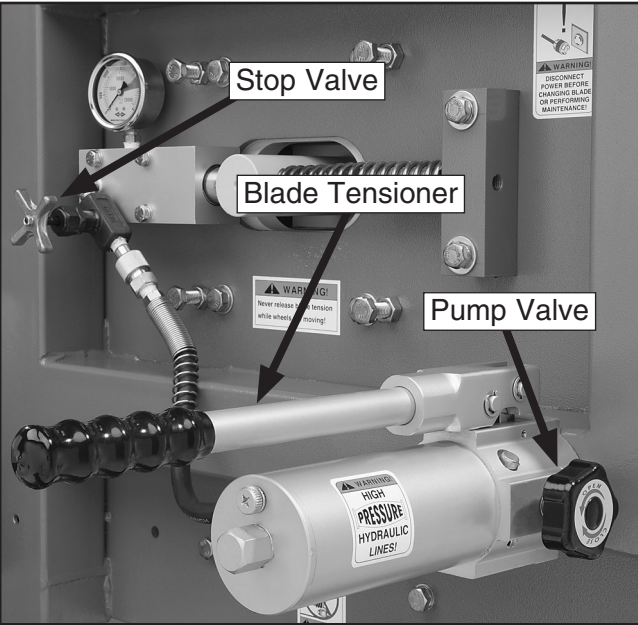

Figure 16. Blade tensioner controls.
- 6. Loosen the stop valve (**Figure 16**) and tighten the pump valve.
- 7. Tighten the blade with the blade tensioner shown in **Figure 16**. Use the colored area on the tension gauge as a proper tension guide for your specific blade material.